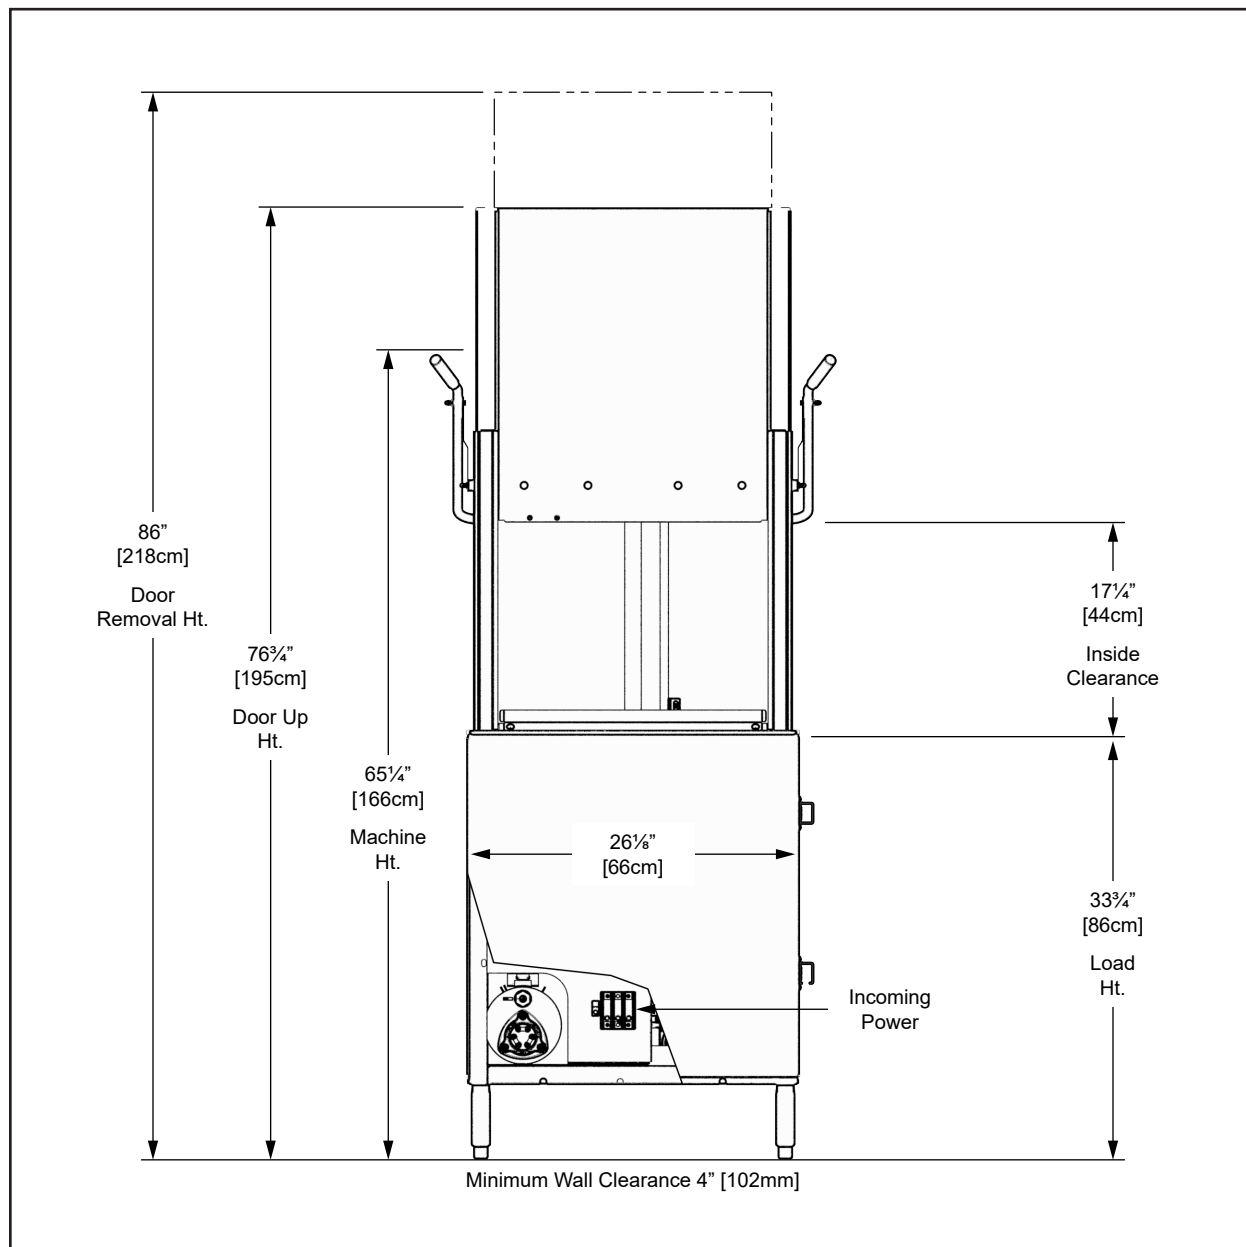

Fig. 3 - Dishwasher Dimensions in Inches and Centimeters
6. The typical dishwasher load height is $33\frac{3}{4}$ " [86cm] (see Fig. 3).